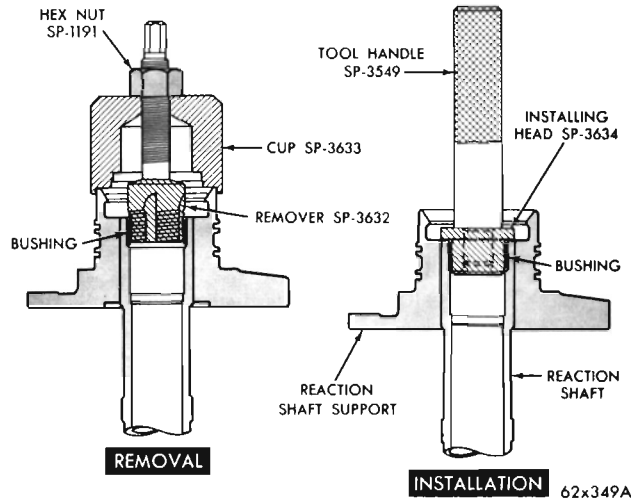

Fig. 87—Replacing Reaction Shaft Bushing
(1) Assemble the remover Tool SP-3632, the cup Tool SP-3633, and the hex nut Tool SP-1191 (Fig. 87).
(5) Lightly grip the bushing in a vise or with pliers and back the tool out of the bushing. Be careful not to damage the threads on the bushing remover.
(6) Slide a new bushing (chamfered end first) on the installing head Tool SP-3634, and start them in the bore of the reaction shaft (Fig. 87).
(7) Support the reaction shaft upright on a clean smooth surface and install handle Tool SP-3549 in the installing head. Drive the bushing into the shaft until the tool bottoms.
(8) Thoroughly clean the reaction shaft support assembly before installation.